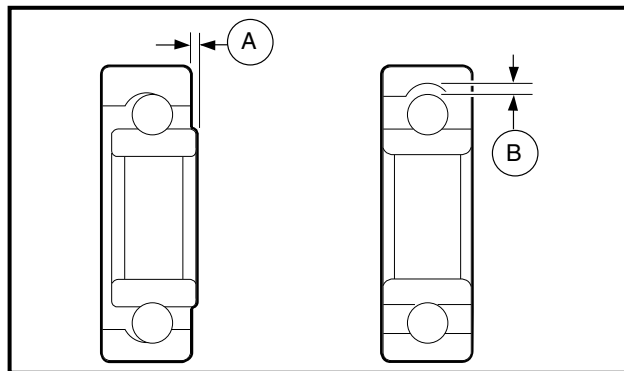

Figure 12-9 Bearing Play Inspection
1. Wipe the carbon dust from the two bearings. Inspect bearings by spinning them by hand and checking for both axial (A) and radial (B) play (**Figure 12-9, Page 12-5**).